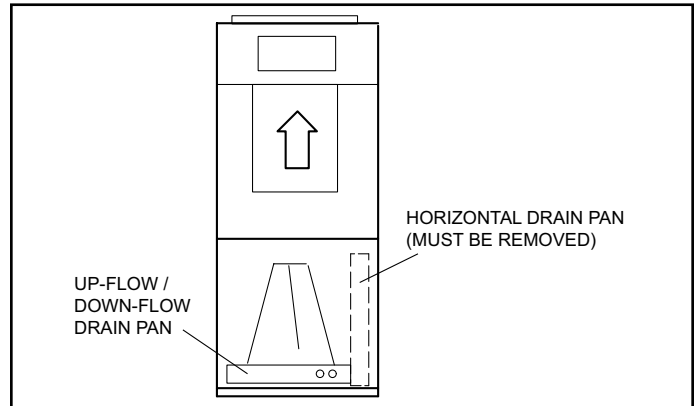

Figure 1. Upflow Configuration
4. After removing the horizontal drain pan, place the unit in the desired location. Set unit so that it is level. Connect return and supply air plenums as required using sheet metal screws as illustrated in Figure 1.